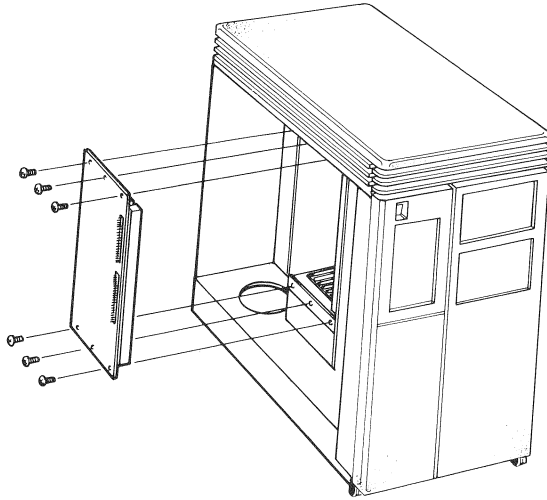

Figure 10-20 Backplane Removal
5. Lift the metal plate and the backplane out of the back of the card cage (Figure 10-20).